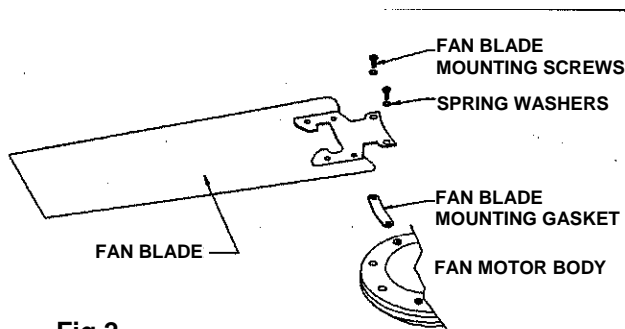

Fig.2
2.3 Fit the three blades to the fan body (see Fig 2).